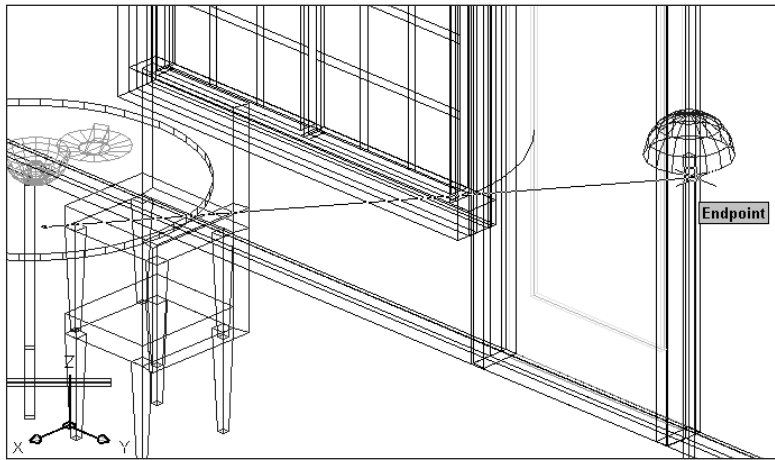

Figure 25-13: Picking the point light location
4. Type **P1** in the *Light Name* text box. Click *Modify*. AutoCAD returns you to your drawing. Click *Pan Realtime* and pan to the right a couple of times until you see the floor lamp, as shown in Figure 25-13. Press *Esc* to exit *Pan* mode. At the *Enter light location <current>*: prompt, pick the endpoint shown in Figure 25-13. AutoCAD returns you to the *New Point Light* dialog box.